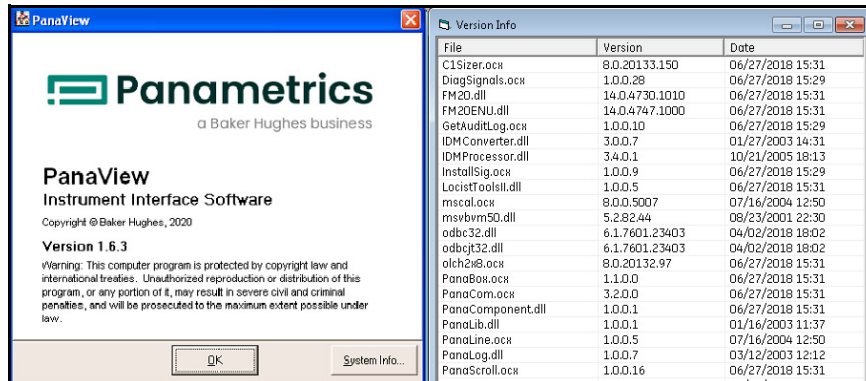

Figure 26: The About PanaView and Version Information Screens
The “*About PanaView*” option provides information on your version of the software and about your computer system. To access this information, simply click “*About PanaView*” option and a screen similar to the one on the left in *Figure 26* below opens. To access data on the PanaView components for this version, click on “*Version Info*” and a screen similar to the one on the right in *Figure 26* below opens.
- The screen shown on the left in *Figure 26* below shows the *version number* of the currently installed copy of PanaView, which may differ from the example shown here.
- The screen on the right in *Figure 26* below, which includes the version information, lists data on the various components of the PanaView software.